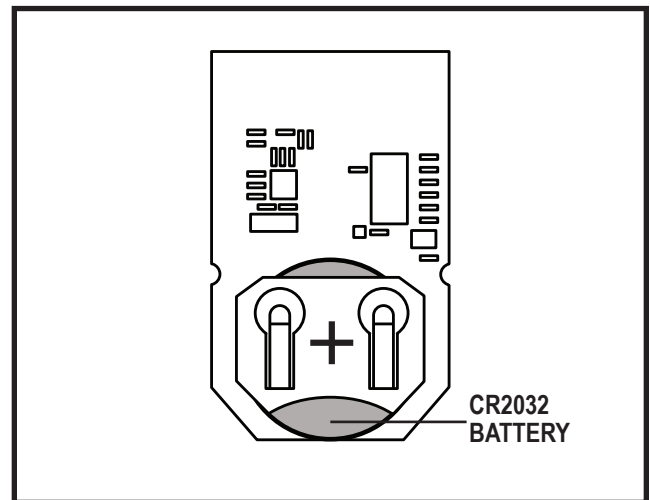

Figure 20. Battery Replacement
3. Slide the replacement battery in, positive side up. **See figure 20.**